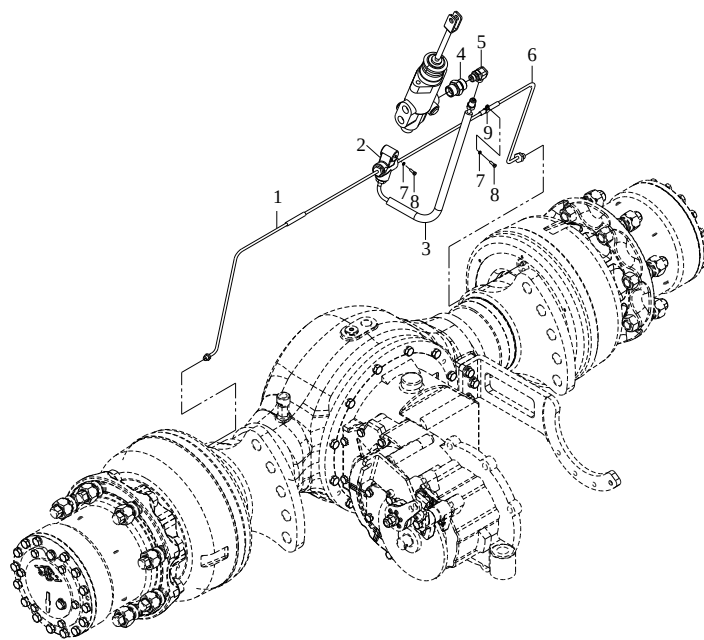
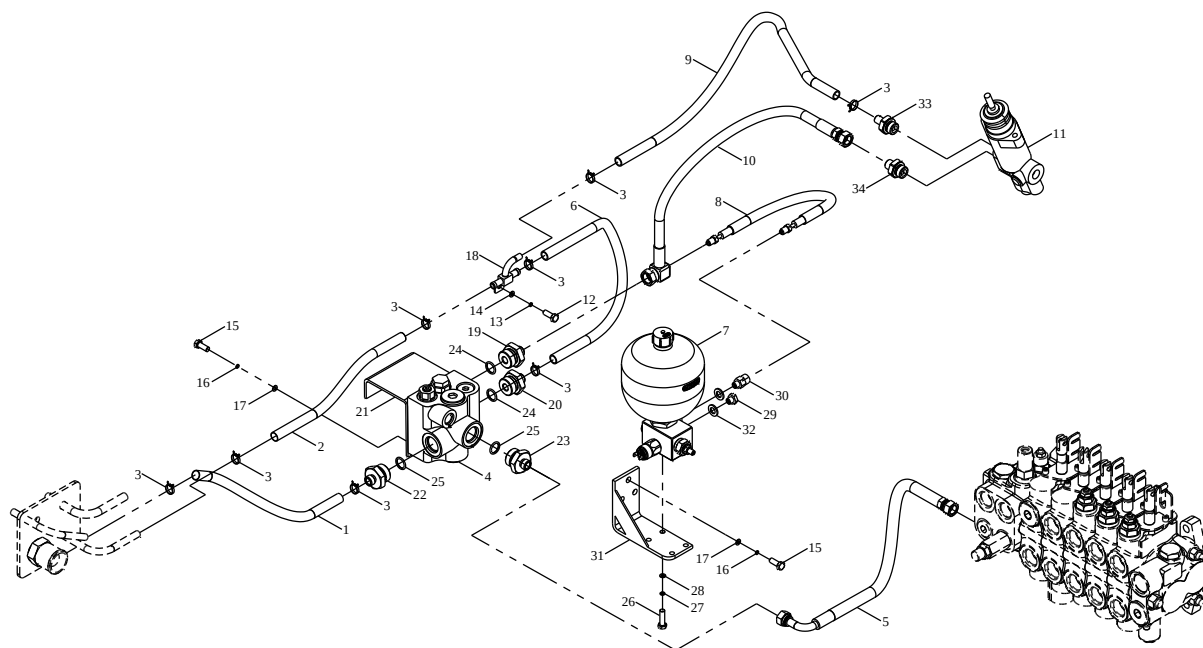

Fig.4-3 Brake control line
Fig 4-4 Brake hydraulic oil circuit
Foot brake piping system consists of brake control piping and brake hydraulic oil circuit. See figure 4-3 and figure 4-4 for details.
(1) When the brake is not applied, that is, before the pedal is pressed, as shown in figure 4-4, the B port is connected to the T port.
(2) As the pedal is depressed, the compression force of the regulator spring is getting smaller and smaller, and the reduction of the braking pressure is proportional to the movement of the operating part. If the displacement of the operating member remains constant, the spool moves to an equilibrium position and keeps the set pressure at port B constant. When depressed to the bottom, the B port is connected to the P port.